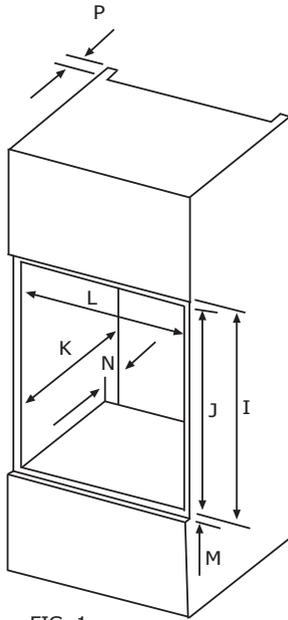

FIG 1
## Refer to FIG.1 for the dimensional requirements.
4. Ventilation is required for the product, to allow it to function correctly, a cutout should cut into the top of the housing unit (see FIG.1), to provide this.
The appliance is designed to fit into a standard 600mm wide housing unit, with minimum internal dimensions as shown in FIG.1 of the installation dimensions. Please note that all sizes are nominal, and some variation is to be expected.